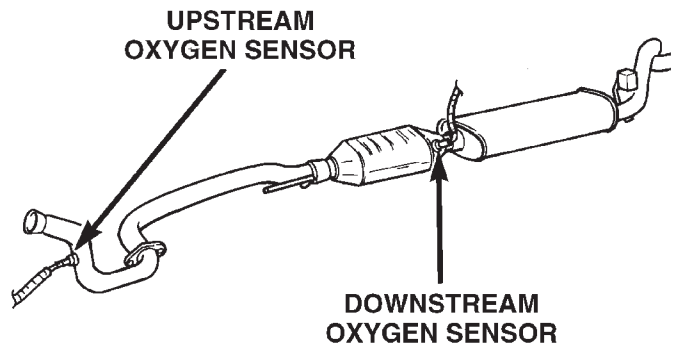
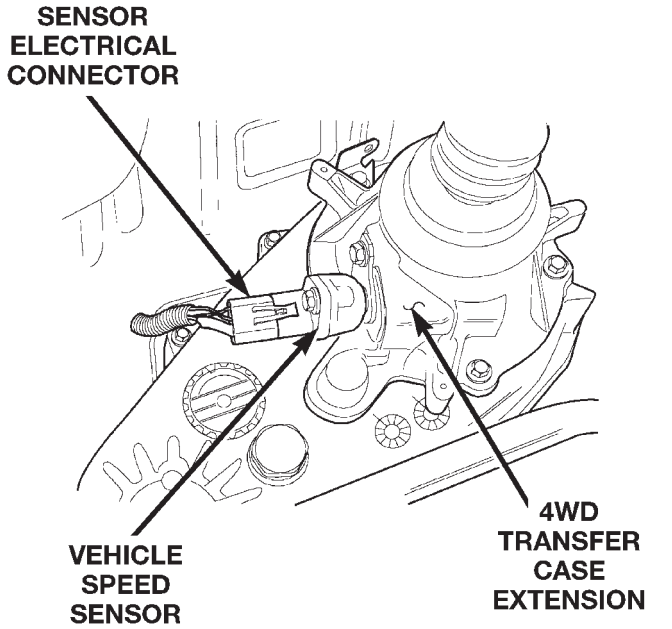
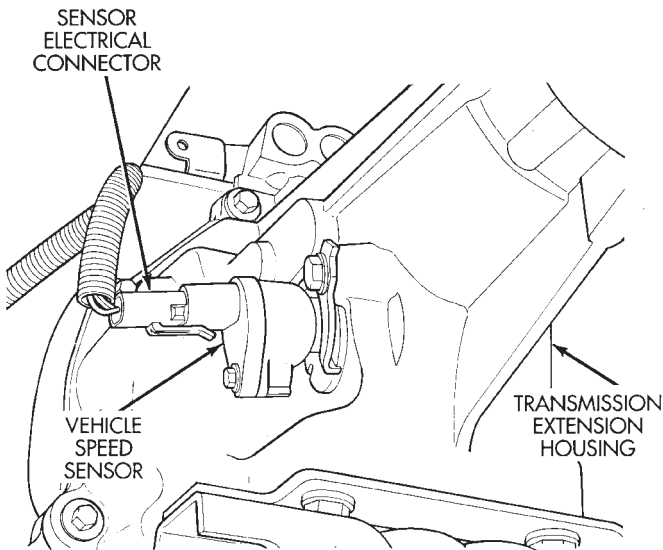

Fig. 25 Location of Oxygen Sensors
Fig. 26 Vehicle Speed Sensor—2WD
Fig. 27 Vehicle Speed Sensor—4WD
- (20) Raise and support vehicle.
- (21) Verify both oxygen sensor wire connectors are firmly connected to sensors. Inspect sensors and connectors for damage (Fig. 25).
- (22) Inspect for pinched or leaking fuel tubes. Inspect for pinched, cracked or leaking fuel hoses.
- (23) Inspect for exhaust system restrictions such as pinched exhaust pipes, collapsed muffler or plugged catalytic convertor.
- (24) If equipped with automatic transmission, verify electrical harness is firmly connected to park/neutral switch. Refer to Automatic Transmission section of Group 21.
- (25) Verify electrical harness connector is firmly connected to vehicle speed sensor (Fig. 26) or (Fig. 27).